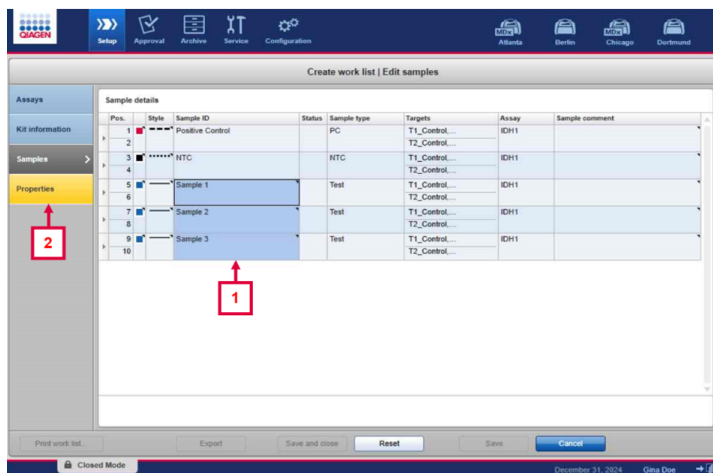

Figure 11. “Create work list” window on the “Samples” tab. Box 1 indicates Samples ID column. **Box 2** indicates Properties tab.
10. Enter the sample names into the “Sample ID” column (Figure 11, indicated by box 1). Enter any comments into the “Comments” column. Next, click the **Properties** tab (Figure 11, indicated by box 2).